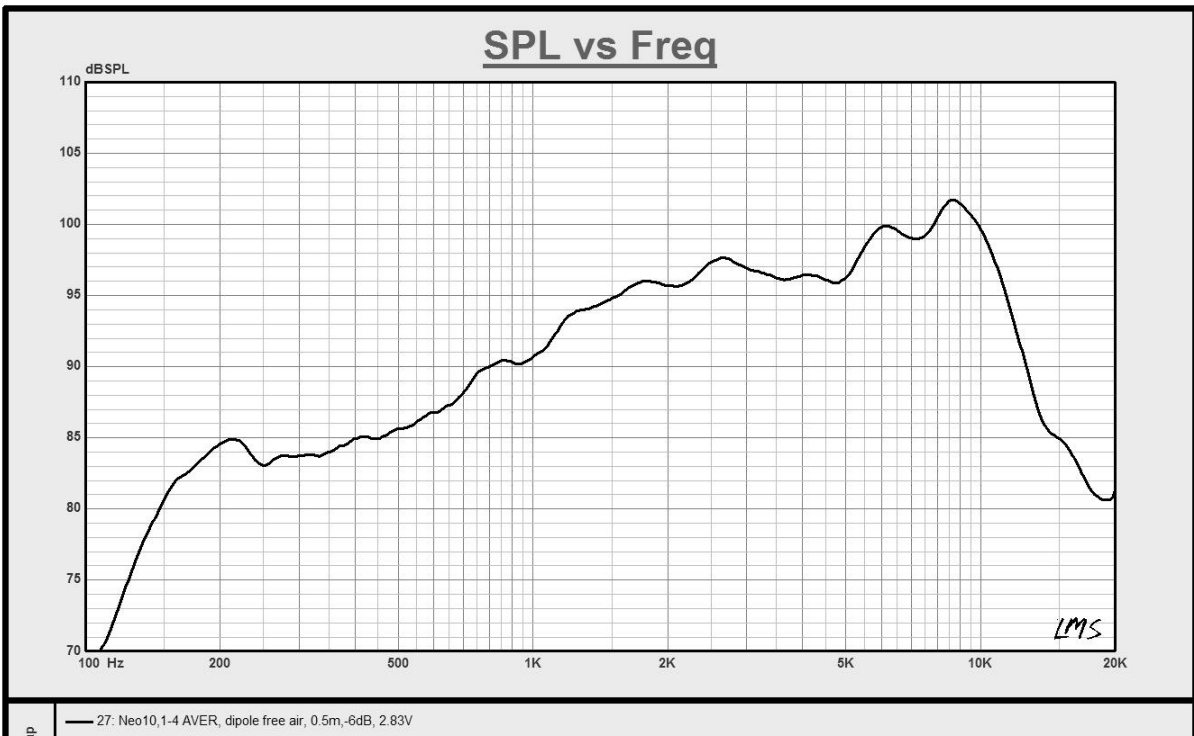

Fig. 1 Neo10 frequency response
- A. Figure 1 reflects a frequency response for a single Neo10 in free air without any baffle loading or enclosure (i.e. in dipole configuration). Predictably, in a dipole configuration, increasing baffle size results in increased low frequency extension and output.